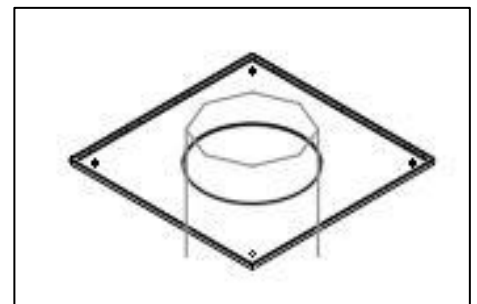

Figure 2-1: SUPREME Radiation Shield Offset
2. For an installation with the chimney running through the ceiling, install the SUPREME Radiation Shield Offset below the chimney opening prior to installing the radiation shield (refer to Figure 2-1, 3-6, & 3-8).